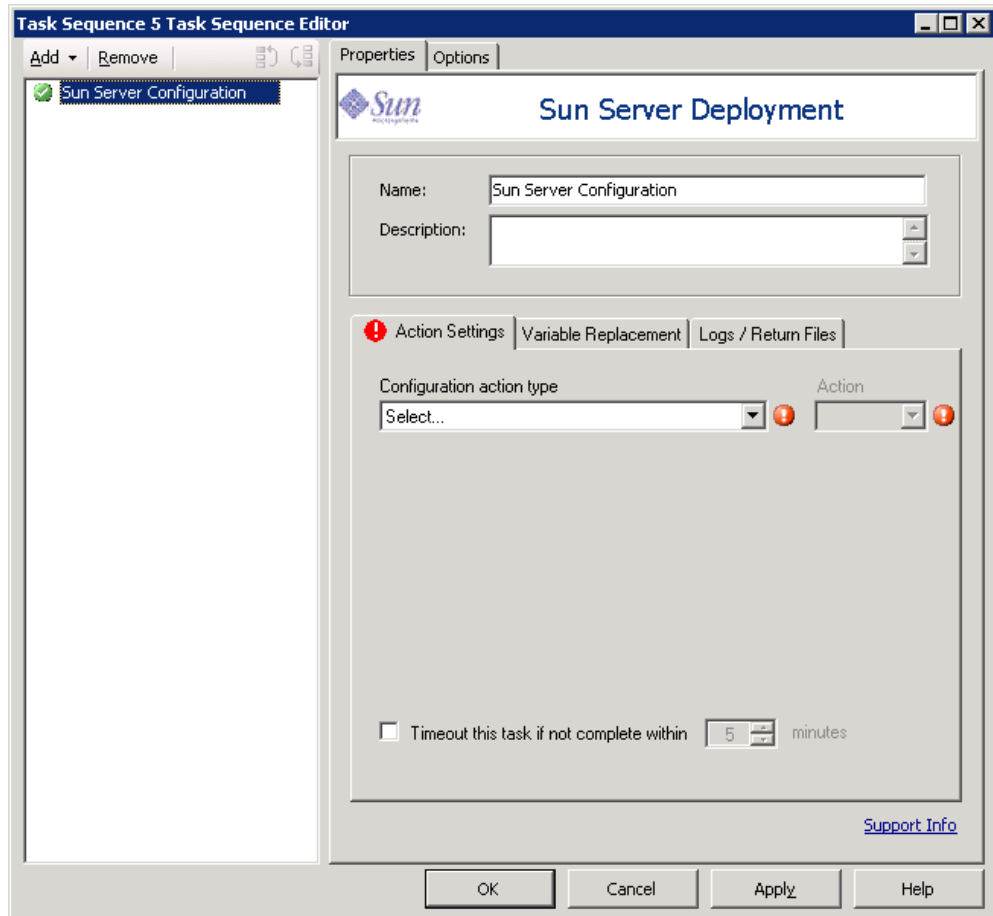

Figure 32: Sun Custom Action selection GUI
- Click **No** to launch a Sun Custom Action selection dialog, as shown in Figure 32. See the following steps for more information